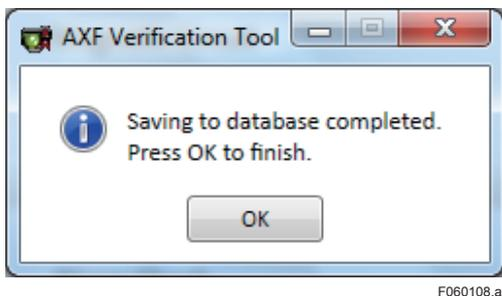

Figure 6.1.8 “Saving Completed” Dialog
3) **Figure 6.1.8** is displayed automatically. Click “OK”.